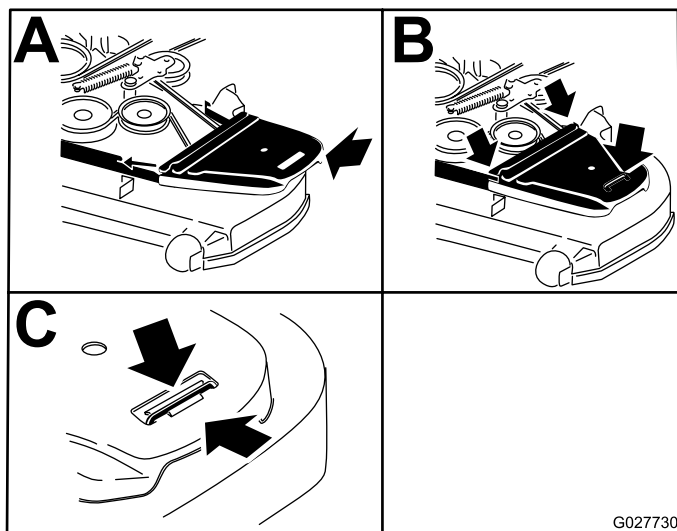

Figure 87
14. Install the belt covers and the bolts attached to them (Figure 87).